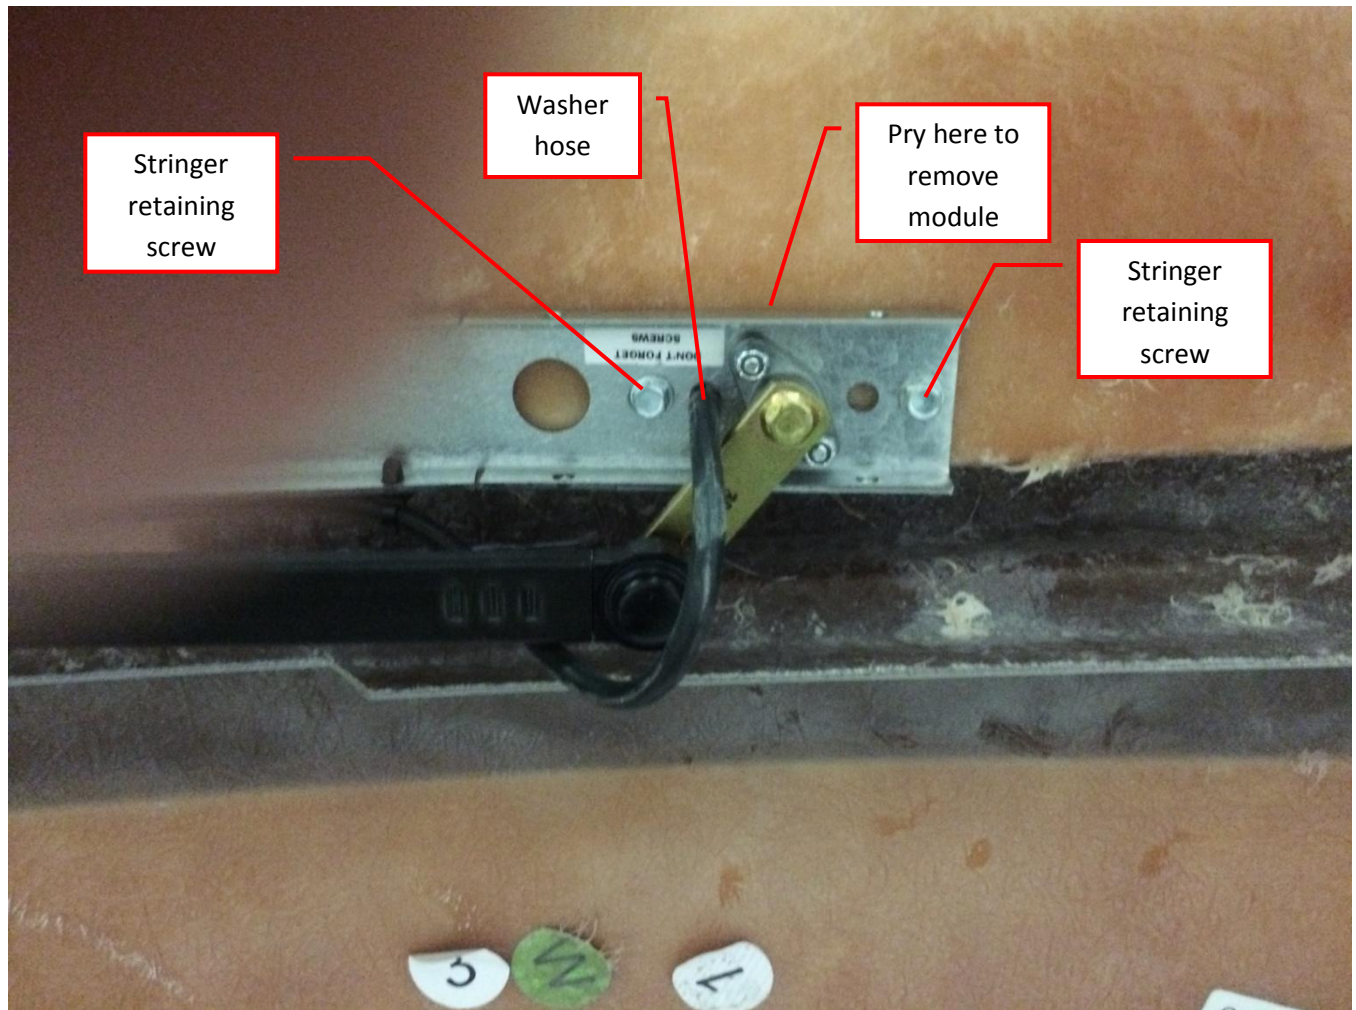

Fig. 2 Rear view of stringer in vehicle
5. On the back side of the vehicle cap, locate and disconnect the washer hoses from the brass fittings that go through the cap from the outside (fig. 2).
8. Follow the long wiper module stringer bracket outboard to one of the pivots. Remove the 2 screws that attach the stringer to the cap using a 5/16" socket. Do this for both sides (fig. 2).
11. The wiper module may now be removed from the vehicle. **DO NOT** strike the pivot shafts with a hammer or mallet to force the wiper module rearward as this may loosen the shaft retaining clips. If the module is stuck, wedge a large standard screw driver under the stringer bracket near the pivot and pry to move the wiper module rearward (see fig. 2 for pry location).